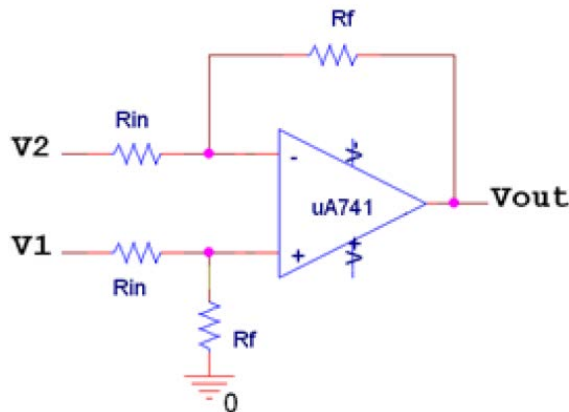

Figure D-2.
*The differential amplifier:* The circuit in Figure D-2 is a *differential amplifier*, also called a *difference amplifier*. Its behavior is governed by the following equation:  $V_{out} = \frac{R_f}{R_{in}} (V_1 - V_2)$ .